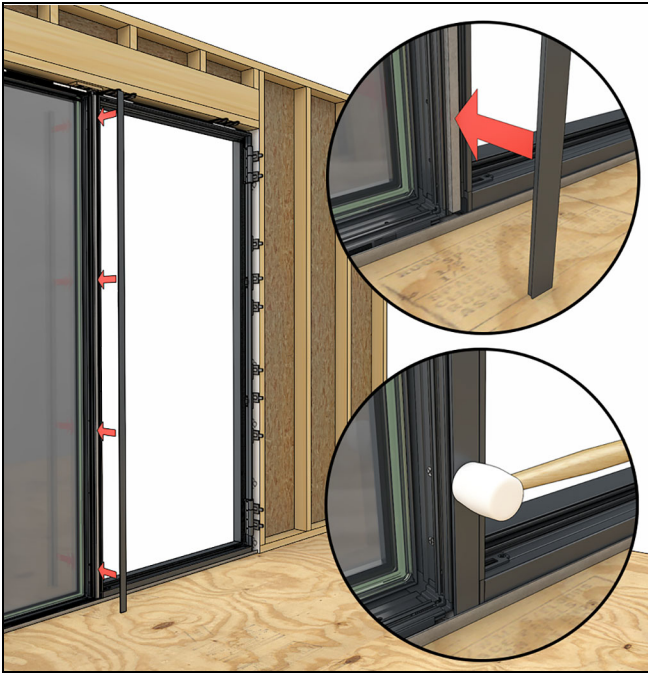

Figure 210
26. Install the interior mull cap(s). Seat with a rubber mallet. See Figure 210.